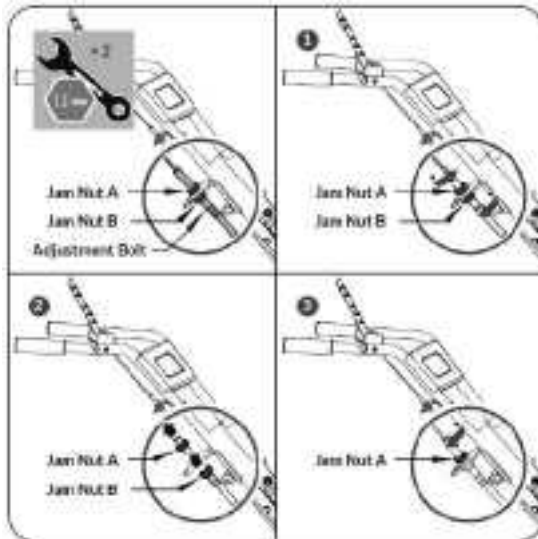

Fig. 14
1. Loosen the jam nut A and jam nut B by turning them with two 13mm wrenches at the same time. (See Figure 14, Illustration 1)
2. Loosen jam nut A enough so the jam nut B can be rotated. Then, screw the jam nut B up until desired cable tightness is reached. (See Figure 14, Illustration 2)
3. Screw the jam nut A down to lock jam nut B. (See Figure 14, Illustration 3)